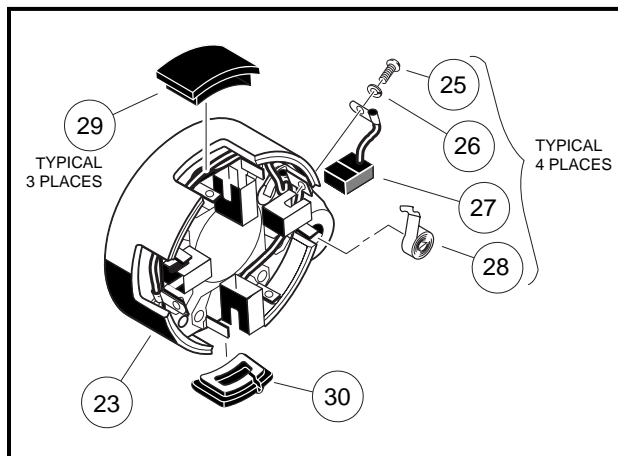
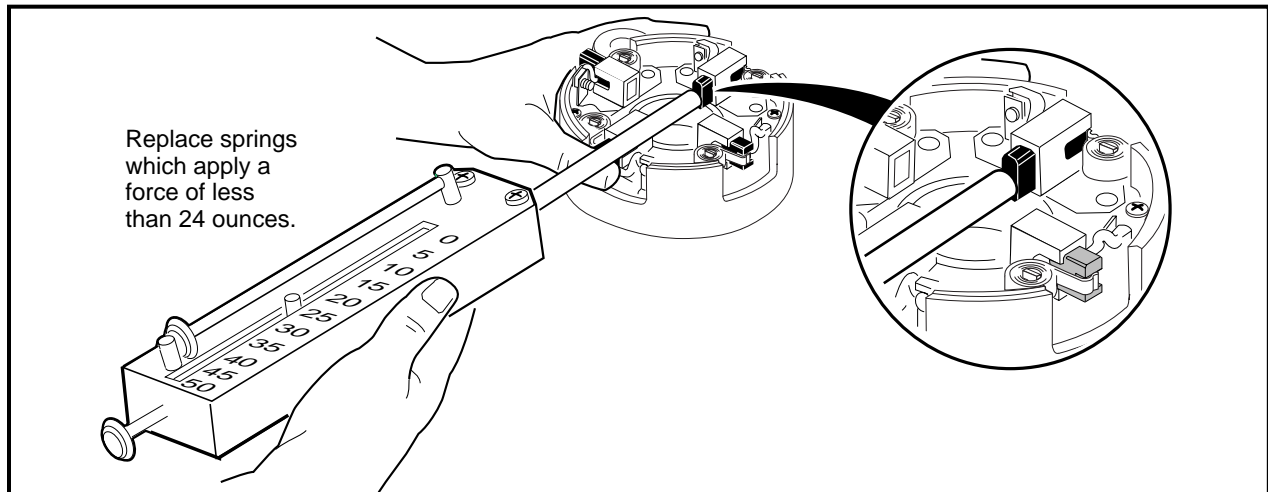

Figure 12-4 Brush Installation
Figure 12-6 Brush Spring Tension Test
2. Remove brush covers (29 and 30), screws (25) and lockwashers (26), brush springs (28), and brushes (27) (**Figure 12-4, Page 12-4**).
2. Install the four brushes (27) into their holders and insert the four brush springs (28) (**Figure 12-4, Page 12-4**). Using a spring scale, test brush spring tension. If any spring has a tension less than 24 ounces, replace all four springs (**Figure 12-6, Page 12-5**). See following **CAUTION**.
1. Connect the brush wires to the holders using four lockwashers (26) and four screws (25), making sure the crossover leads are connected also. Tighten the screws to 31 in-lb (3.5 N-m) (**Figure 12-4, Page 12-4**).
4. Push the brushes down into the holders. Position springs into the notches in the brushes. Install the brush cover (30) that has the drain hole in it next to the A2 terminal. Install the remaining three brush covers (29) in the openings in the commutator end cover (23) (**Figure 12-4, Page 12-4**).
10. Install the brushes into the holders. Place springs into the notches in the brushes. Install the brush cover (30) that has the drain hole in it next to the A2 terminal. Install the remaining three brush covers (29) in the openings in the commutator end cover (23) (**Figure 12-4, Page 12-4**).